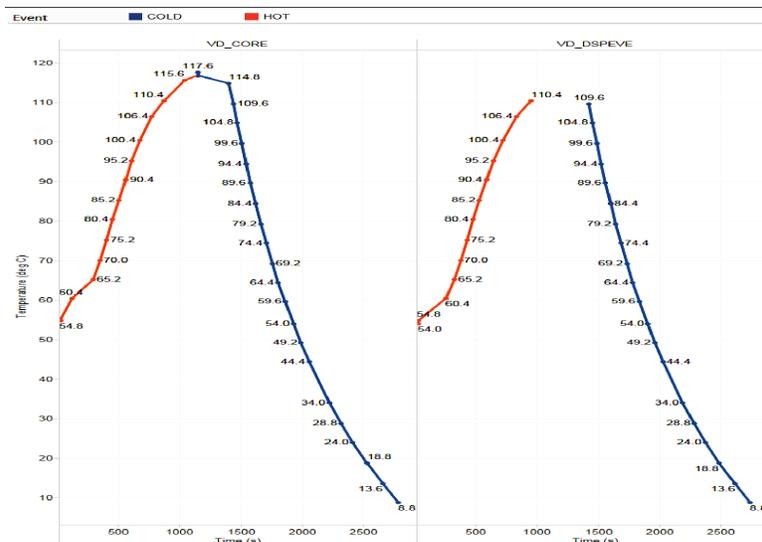

Figure 22. Thermal Tracking by Changing Thermal Thresholds in Temperature ISR
- A thermal tracking system can also be created with this mechanism for modifying the temperature thresholds in the temperature ISR. Figure 22 provides an example of this thermal tracking where the device was heated and then cooled in a thermal chamber, from 40°C to 110°C then back down to 0°C.
The hot and cold thresholds were modified by 5°C on every thermal event. As the ambient temperature changed, the host processor was interrupted at the appropriate temperatures. The current temperature was recorded at every thermal event, the plot is shown in Figure 22. Note the junction temperature is higher than the ambient temperature by approximately 10°C. This difference increases as the ambient temperature increases due to higher leakage power dissipation and thermal device heat generation at higher temperatures.
- Depending on the use case operation, different regions of the device heat up slightly differently than others. Note in Figure 22 that the 500 s Time the VD_CORE is at approximately 85°C and VD_DSPEVE is at approximately 80°C. The difference in temperature is almost always $<\pm 5\text{-}10^\circ\text{C}$. You can choose to base the thermal management on only one temperature sensor in TDA2xx/2ex to minimize software overheads.